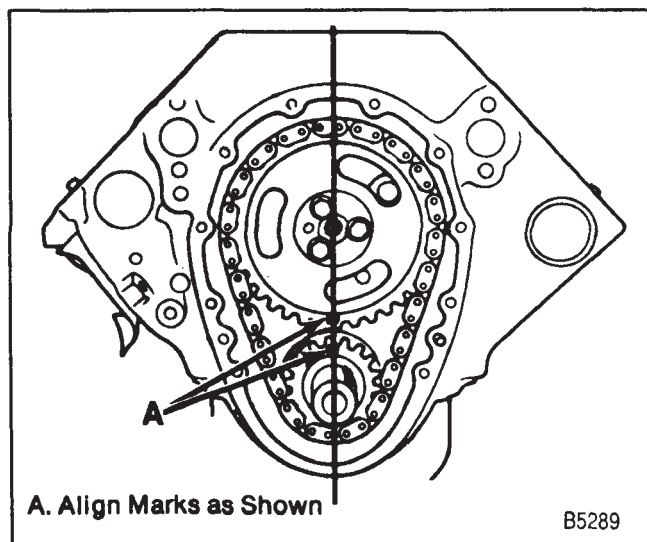
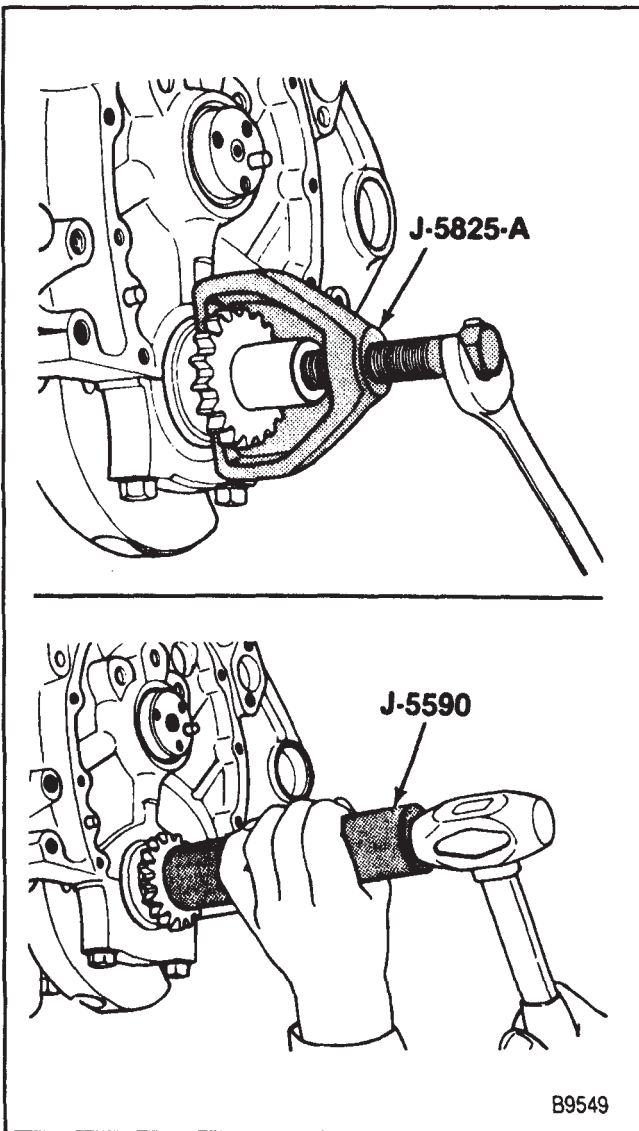
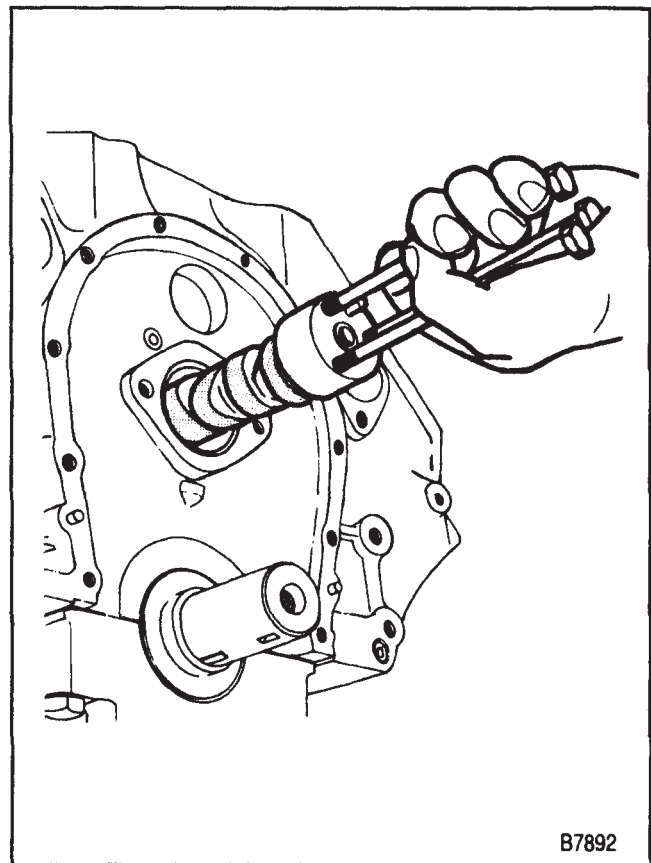

Figure 42—Timing Marks (Number 4 Firing)
Figure 43—Replacing the Crankshaft Sprocket
Figure 44—Replacing the Camshaft
- Align the timing marks (figure 42).
15. Crankshaft sprocket, if necessary. Use J 5825-A (figure 43).
16. Screws (88) and thrust plate (87).
- Install two or three 5/16-18 inch bolts 100-125 mm (4-5 inches) long into the camshaft threaded holes. Use these bolts to handle the camshaft (figure 44).
2. Camshaft to the engine (figure 44). Handle the camshaft carefully to prevent damage to the camshaft bearings.
3. Crankshaft sprocket. Use J 5590 (figure 43). Make sure the timing mark faces outside.
4. Thrust plate (87) and screws (88).
- Line up the timing marks on the camshaft sprocket and crankshaft sprocket dot to dot (figure 42). When these marks are lined up dot to dot, the number four cylinder is at top dead center of its compression stroke. The distributor rotor will need to be positioned facing the number four terminal on the distributor cap when installed.